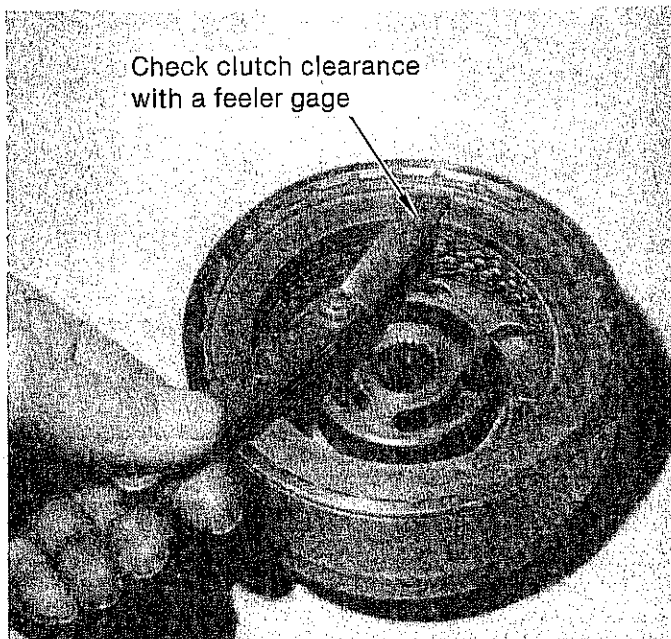

FIGURE 45
STEP 6. Check end play by inserting a feeler gage between the pressure plate and snap ring. (See Fig. 45) Clearance must be .025-.040 inch. Clearance can be adjusted with selective snap rings available from your Ford dealer. (.060-.064, .074-.078, .088-.092, .102-.106) Set the forward clutch assembly aside.